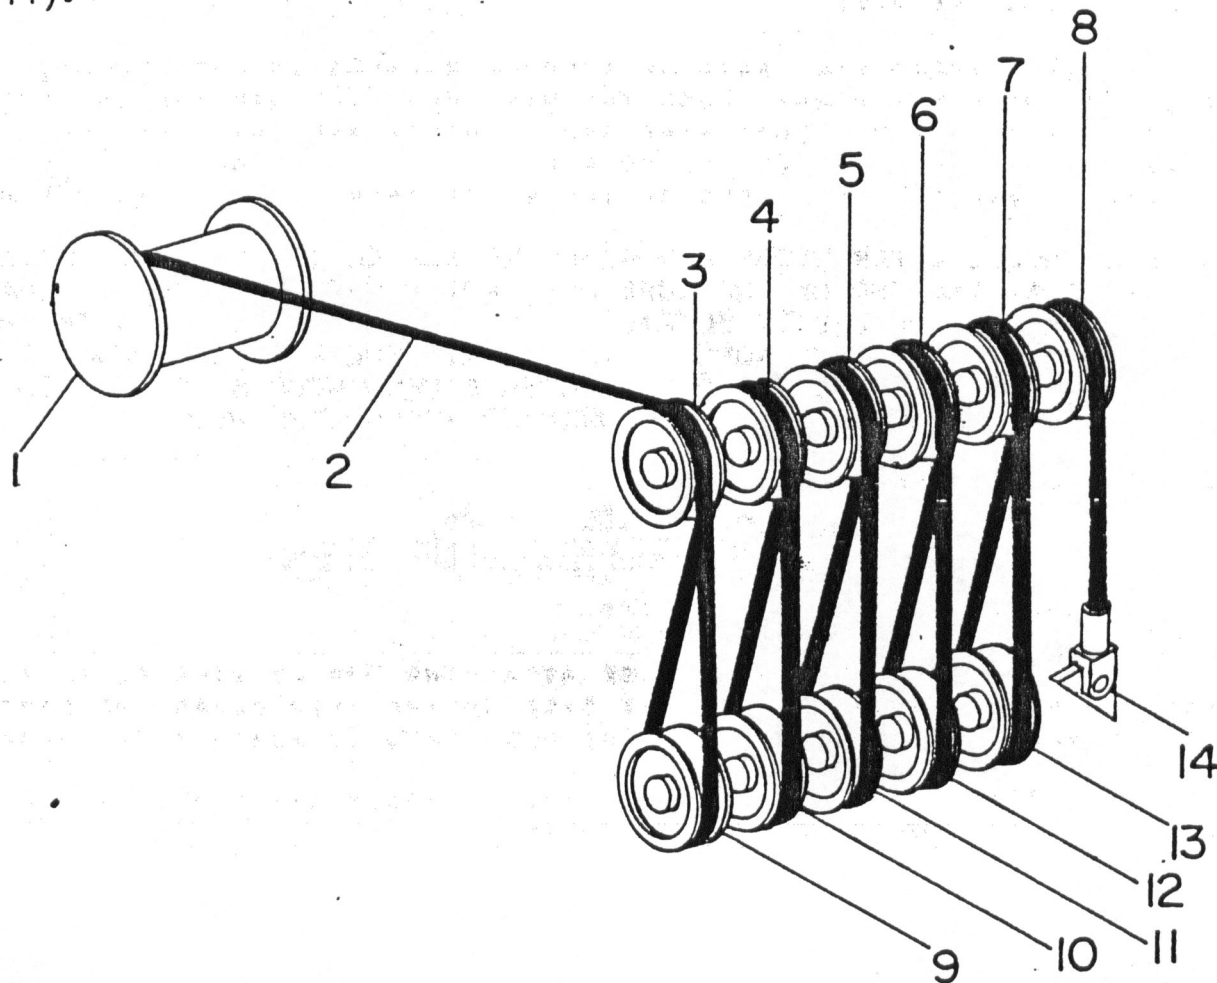

FIGURE 4. STANDARD REEVING DIAGRAM.
(1) THERE ARE VARIOUS WAYS TO REEVE WIRE ROPE. THE APPLICATION WOULD DICTATE THE WAY IT SHOULD BE REEVED. THE DIAGRAM AND INSTRUCTIONS LISTED IN THIS SECTION IS THE RECOMMENDED RIGGING FOR THE STANDARD SIX SHEAVE BOOM POINT AND FIVE SHEAVE HOOK BLOCK FOR STANDARD CRANE OPERATION.
(2) THE WIRE ROPE (2, FIGURE 4) LEAVES THE WINCH FROM THE TOP (1).
(3) OVER SHEAVE (3) AND AROUND SHEAVE (9, 4, 10, 5, 11, 6, 12, 7, 13 AND 8) IN THIS ORDER AND DEAD END ON THE HOOK BLOCK AT (14).